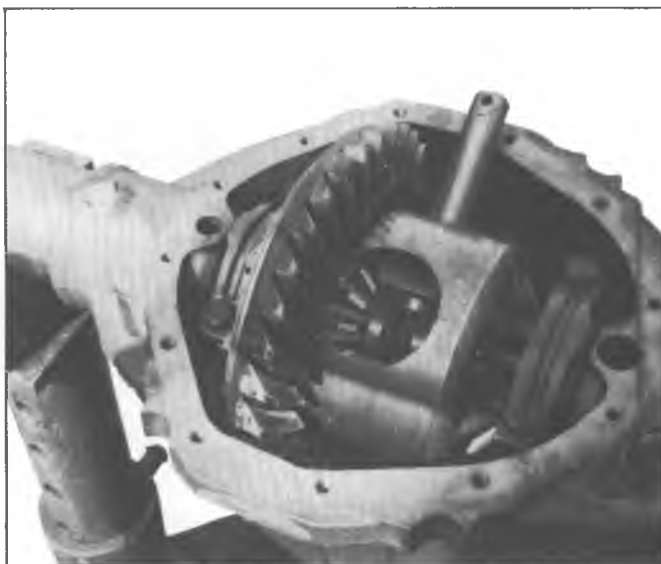

Fig. 14--Positioning Case For Best Clearance
4. Carefully withdraw the pinion shaft part-way out, as shown in figure 14. Rotate the case until the shaft touches the housing.